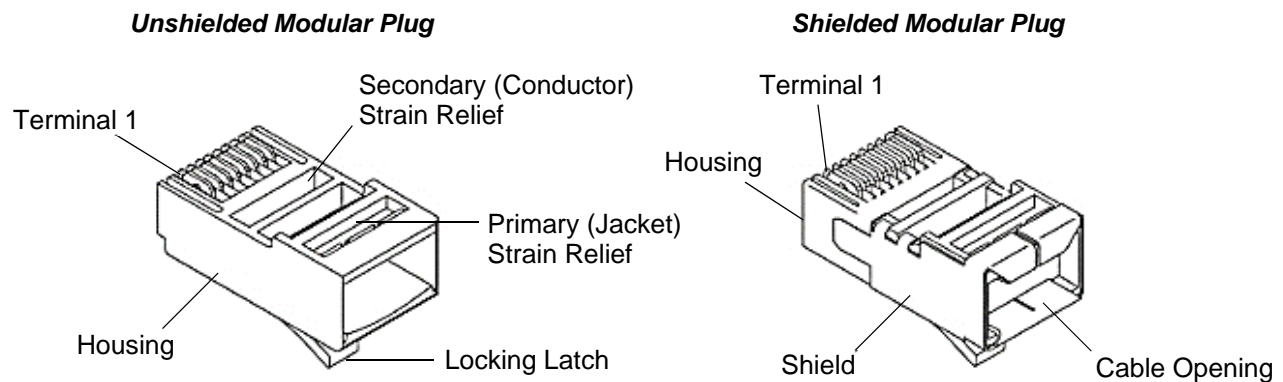

Figure 1
Basic terms and features of this product are provided in Figure 1.
- Removed termination illustrations from figure 1, paragraph 2.3, instruction sheet from paragraph 2.5, UL rating from paragraph 3.1 and CSA file from section 4.